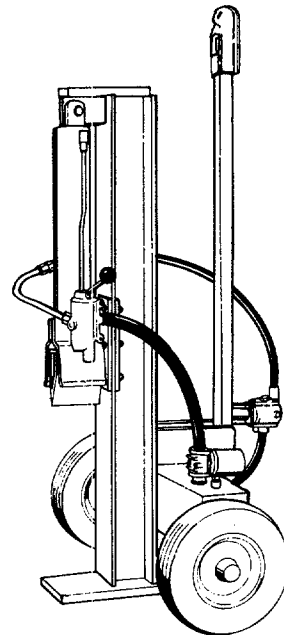

FIGURE 24.
- The tongue can be removed and reattached in an upright position as shown in figure 24 to take less space when storing.